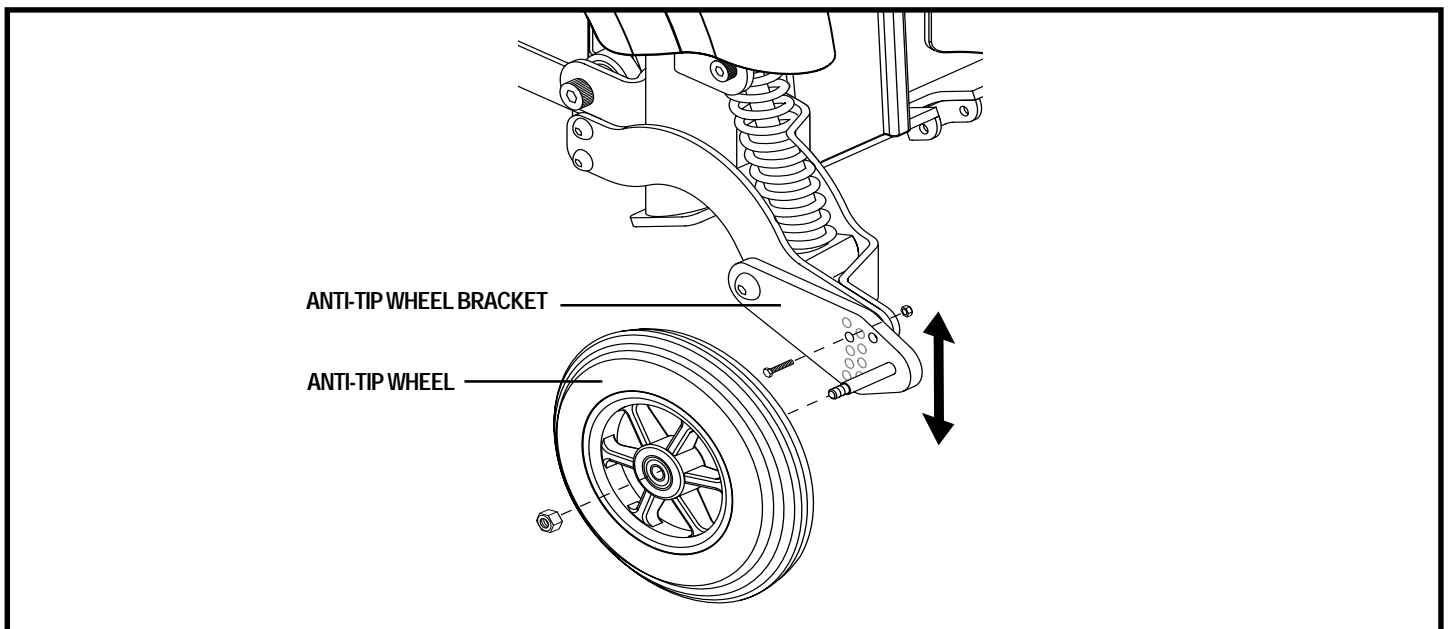

Figure 21. Anti-Tip Wheel Assembly
2. Remove the nut and bolt on the anti-tip bracket. See figure 21.